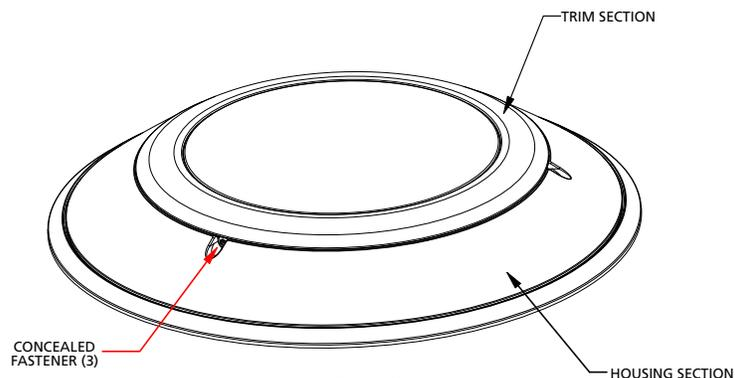

Figure 2
- Retrieve fixture. Using a T20 Torx® tamper-resistant bit, loosen concealed fasteners (3) securing the trim section to housing section and lift off trim section. Place trim section in a location where it will be safe from accidental damage and debris. See Figure 2.